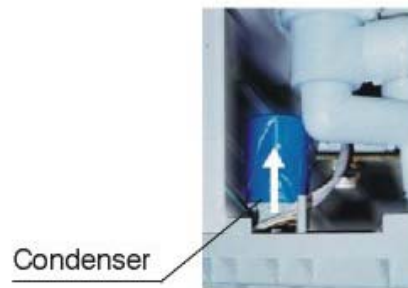

Figure 4
**To replace condenser** (see Figure 4)